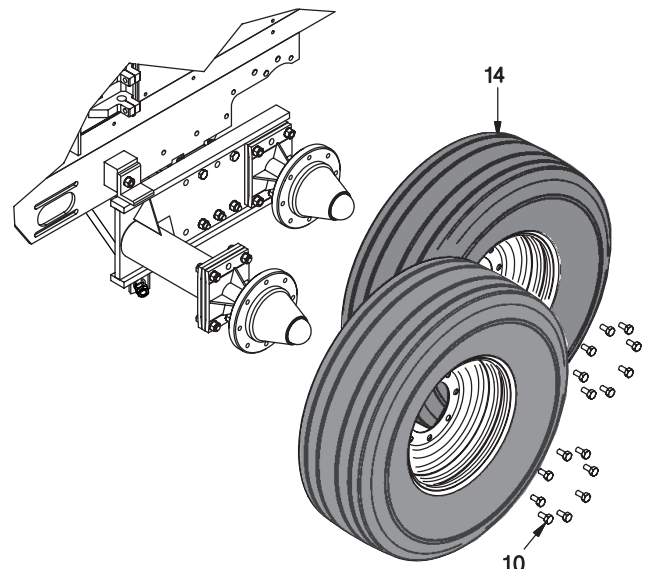

Figure 2-3-5 - Mounting Tires
D. Mount the tires with the valve stem pointing to the inside of the baler (see Figure 2-3-5). Torque all lug bolts as per torque chart on page 2-3-1.